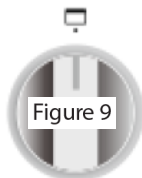

Figure 9
- 2- If, as shown in the Figure 9, the oven button controls the burner of the upper heater, push the switch and turn clockwise to the grill inscription or flame sign.